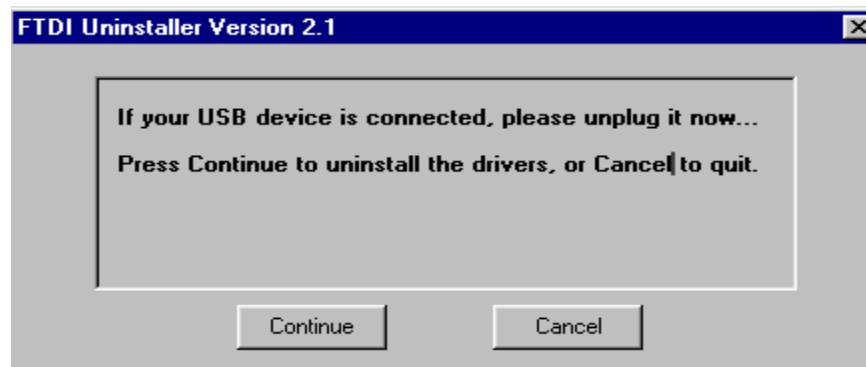

Figure 44
6. Click **Continue** on the **FTDI Uninstaller** confirmation panel (Figure 44).